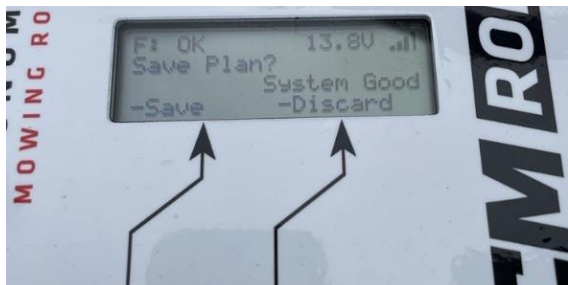

Figure 28
- Afterwards, LCD display will ask 'Save Plan?' (Figure 28).